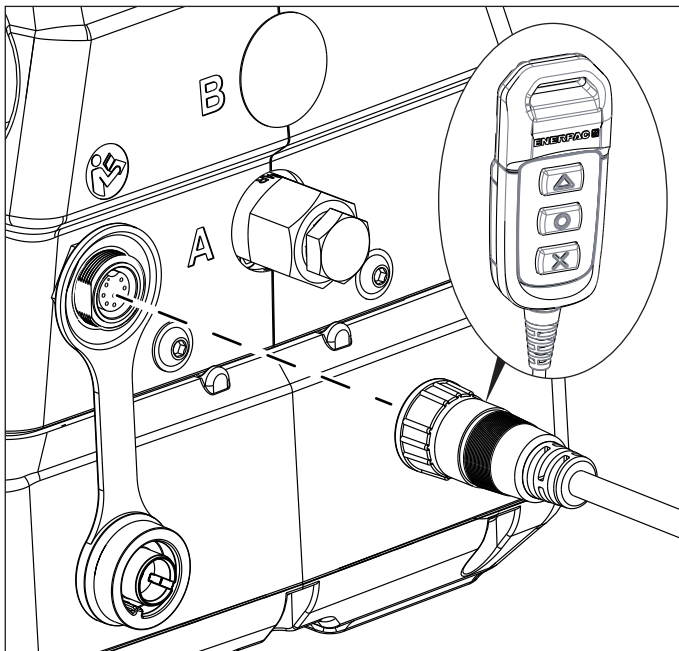

Figure 5: Remote Pendant Connection
1. Remove the dust cap from the connector at the front of the pump and connect the pendant cable. See Figure 5.